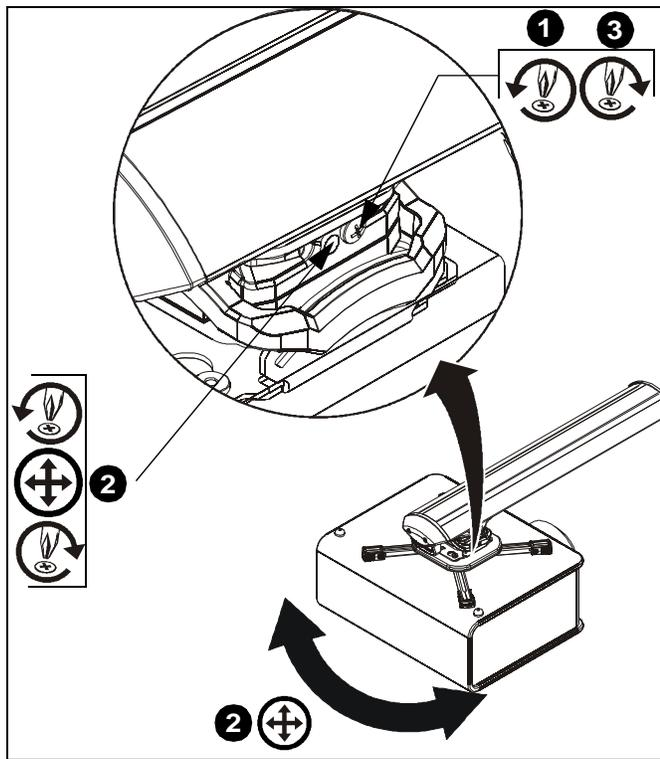

Figure 20
1. Loosen yaw adjustment locking screw using a #2 Phillips screwdriver. (See Figure 20)
2. Turn Yaw micro-adjustment screw right or left using a #2 Phillips screwdriver until image is properly aligned on target. (See Figure 20)
3. Tighten Yaw adjustment locking screw using a #2 Phillips screwdriver. (See Figure 20)